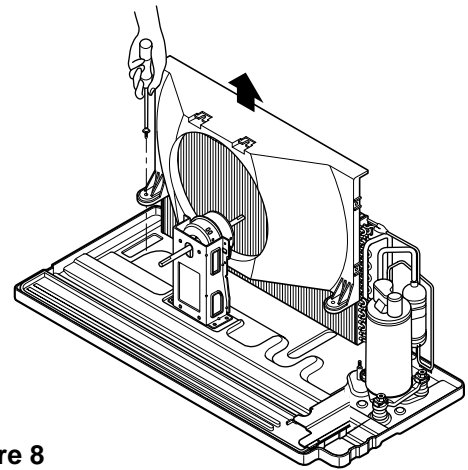

Figure 8
3. Remove the shroud. (See Fig. 8)